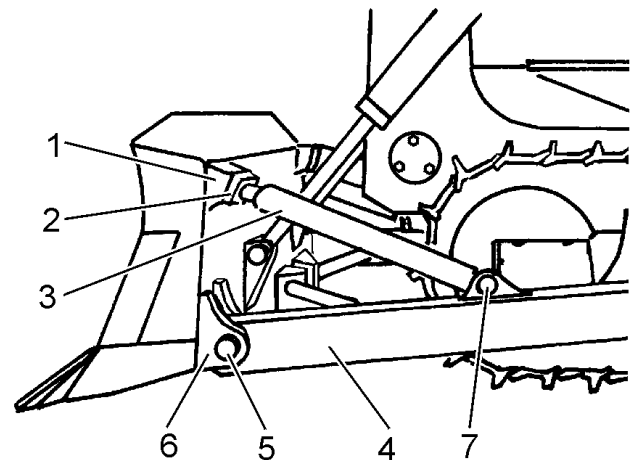

Fig. 17.3. Blade Disconnect Points
5. Remove the bolts securing upper strut cap (2, Fig. 17.3) to blade socket (1). Flip the upper strut (3) back away from the blade and remove the shims. Repeat this procedure on the tilt cylinder.
6. Disconnect the push arm (4, Fig. 17.3) from the blade bracket (6) by removing the pin mounting hardware and drive out pin (5).
2. Align the pin hole in the pivot of push arm (4, Fig. 17.3) with the hole in blade bracket (6). Insert pin (5) through the bracket, aligning the lock holes. Secure the pin with the locking hardware. Repeat this step on the opposite side of the machine.
3. Insert the ball of upper strut (3, Fig. 17.3) in blade socket (1) and connect upper strut cap (2) to the socket with the bolts. Be sure to tighten the bolts evenly. Determine the number of shims needed to fill the gap between upper strut cap (2) and blade socket (1), then add one additional shim to provide clearance. Remove the bolts, add the amount of shims required and install and torque the bolts to 1050 [Nm]. Repeat this procedure on the tilt cylinder.
2. Disconnect the upper strut (3, Fig. 17.3) or tilt cylinder from the push arm (4) by removing the pin locking hardware and drive out mounting pin (7). Tie the strut or cylinder up out of the way.
4. Disconnect the push arm from the blade by removing the pin mounting hardware and drive out pin (5, Fig. 17.3).
1. Position the push arm so that the bracket (6, Fig. 17.3) and the rear of the arm is up against the trunnion.
3. Align the pin hole in push arm (4, Fig. 17.3) with the holes in blade bracket (6). Insert the push arm mounting pin (5) so that the groove in the pin is on the side of blade bracket (6) with the tapped holes. Secure the pin with the locking hardware.
5. Position the eye of the upper strut (3, Fig. 17.3) or tilt cylinder in the bracket on top of the push arm (4) so that the pin holes are aligned. Insert pin (7) through the bracket, aligning the lock holes. Secure the pin with the locking hardware.
1. Disconnect upper strut (3, Fig. 17.3) from the push arm (4) by removing the pin locking hardware and drive out pin (7),
2. Remove the bolts securing cap (2, Fig. 17.3) to socket (1) and remove the strut and shims.
3. Position the upper strut (3, Fig. 17.3) so that the eye is inside the bracket on top of the push arm (4) and the strut ball is in socket (1). Connect strut cap (2) to socket (1) with the four bolts. Be sure to tighten the bolts evenly. Determine the number of shims needed to fill the gap between cap (2) and socket (1), then add one additional shim to provide clearance. Remove the bolts, add the amount of shims required and install and torque the bolts to 1050 [Nm].
4. Position the eye of the upper strut in the bracket on top of the push arm so that the pin holes are aligned. Insert pin (7) through the bracket, aligning the lock holes. Secure the pin with the locking hardware.